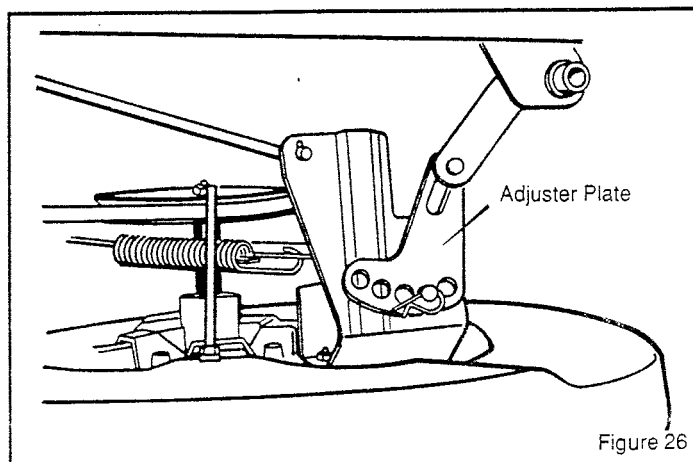

Figure 26
1. Disconnect the **adjuster plate** from the mower housing (Figure 26).